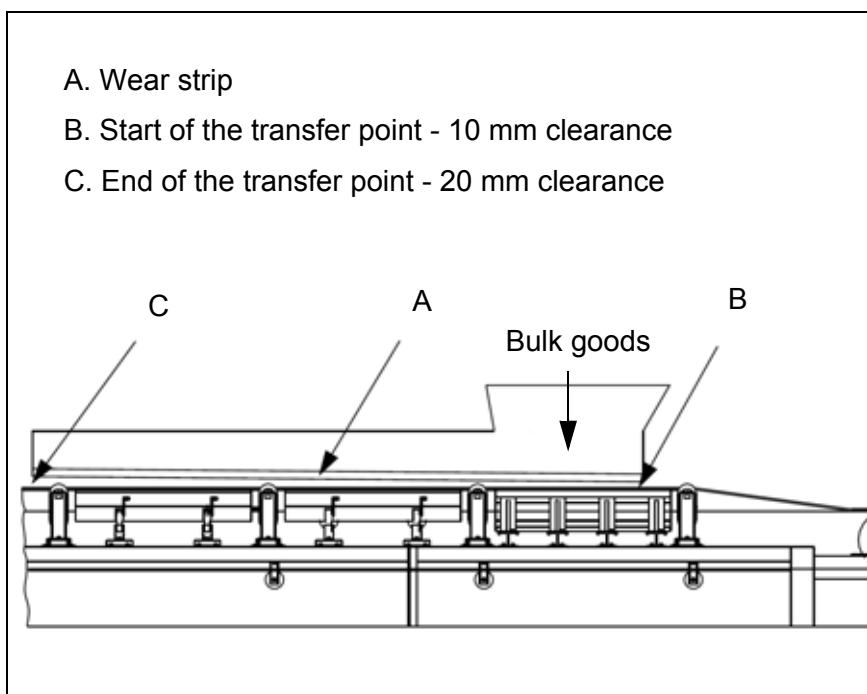
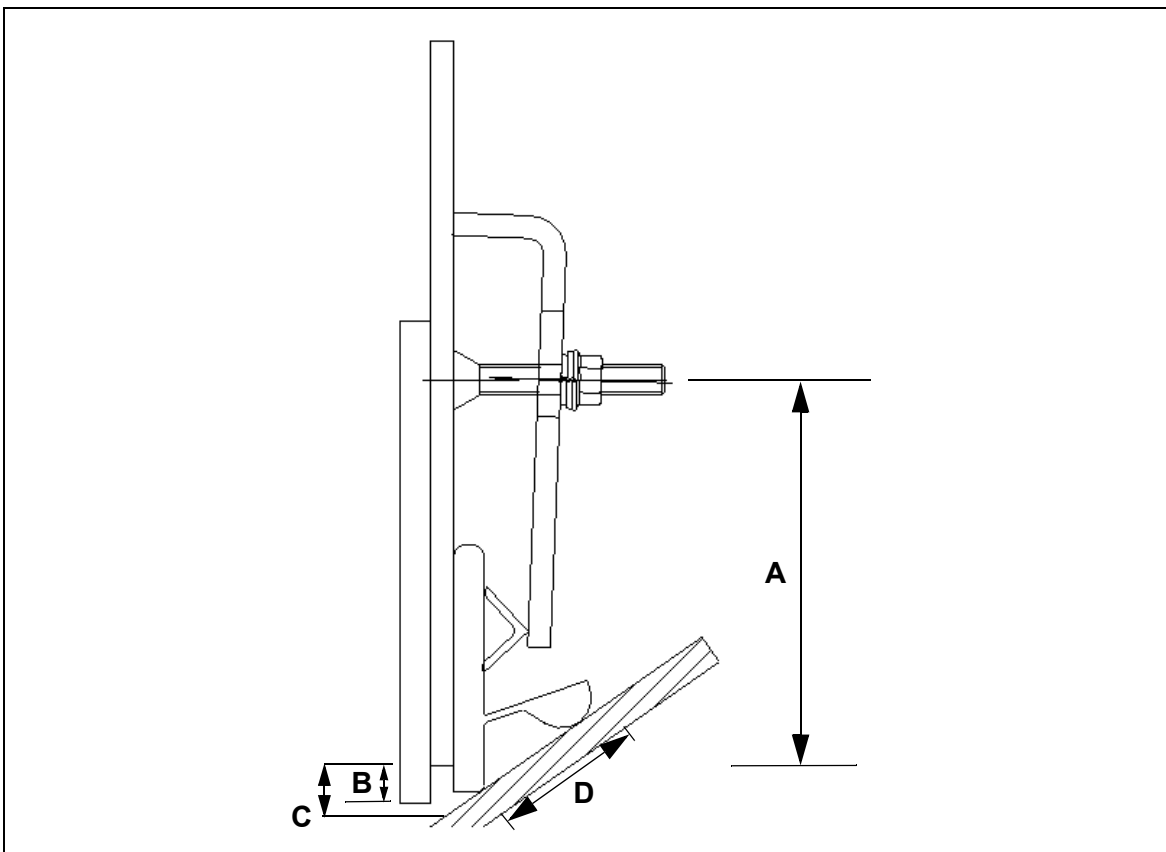

Fig. 1: Position of the chute wall and the wear strip
Fig. 3: Installation dimensions of the MARTIN® APRON SEAL™ skirting system (example)
1. The MARTIN® DURT TAMER™ wear strip (A, Fig. 1) should be at the beginning of the transfer point approx. 10 mm (B, Fig. 1) away from the conveyor belt. This clearance should increase to about 20 mm (C, Fig.1) at the end of the transfer point (for details see point C in Fig. 3 and Tab. 2, page 15).